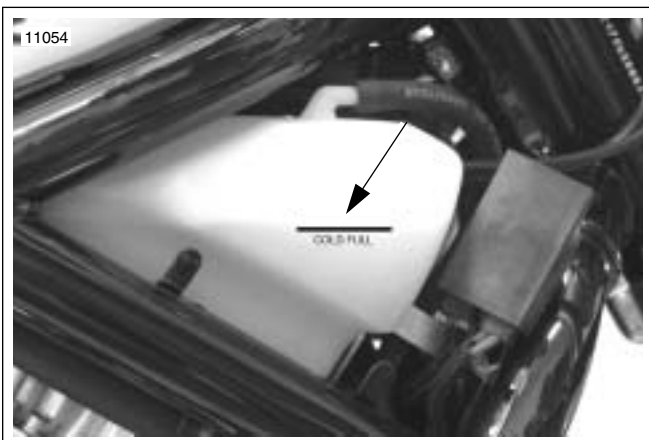

Figure 1-17. Cold Full Line On Overflow Bottle
2. See Figure 1-17. Check coolant level in overflow bottle with coolant cold and motorcycle on jiffy stand. If level is below COLD FULL line on tank, remove cap from tank by using pull tab and add Harley-Davidson, FULLY FORMULATED ANTIFREEZE until fluid level reaches COLD FULL line.